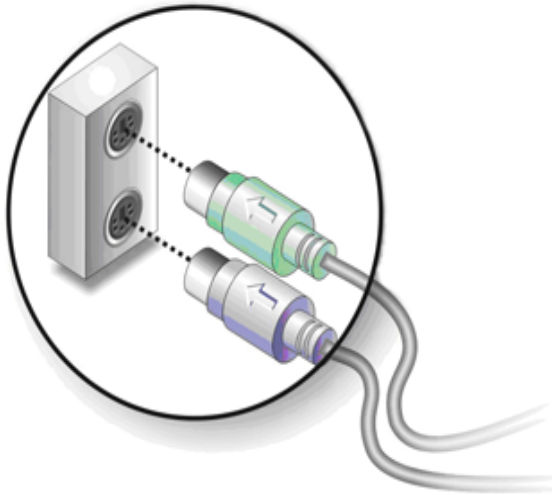

Figure 5-12: PS/2 Keyboard/Mouse Connector
Step 2: Insert the keyboard/mouse connector. Insert a PS/2 keyboard or mouse connector into the appropriate PS/2 connector on the external peripheral interface connector. See Figure 5-12.